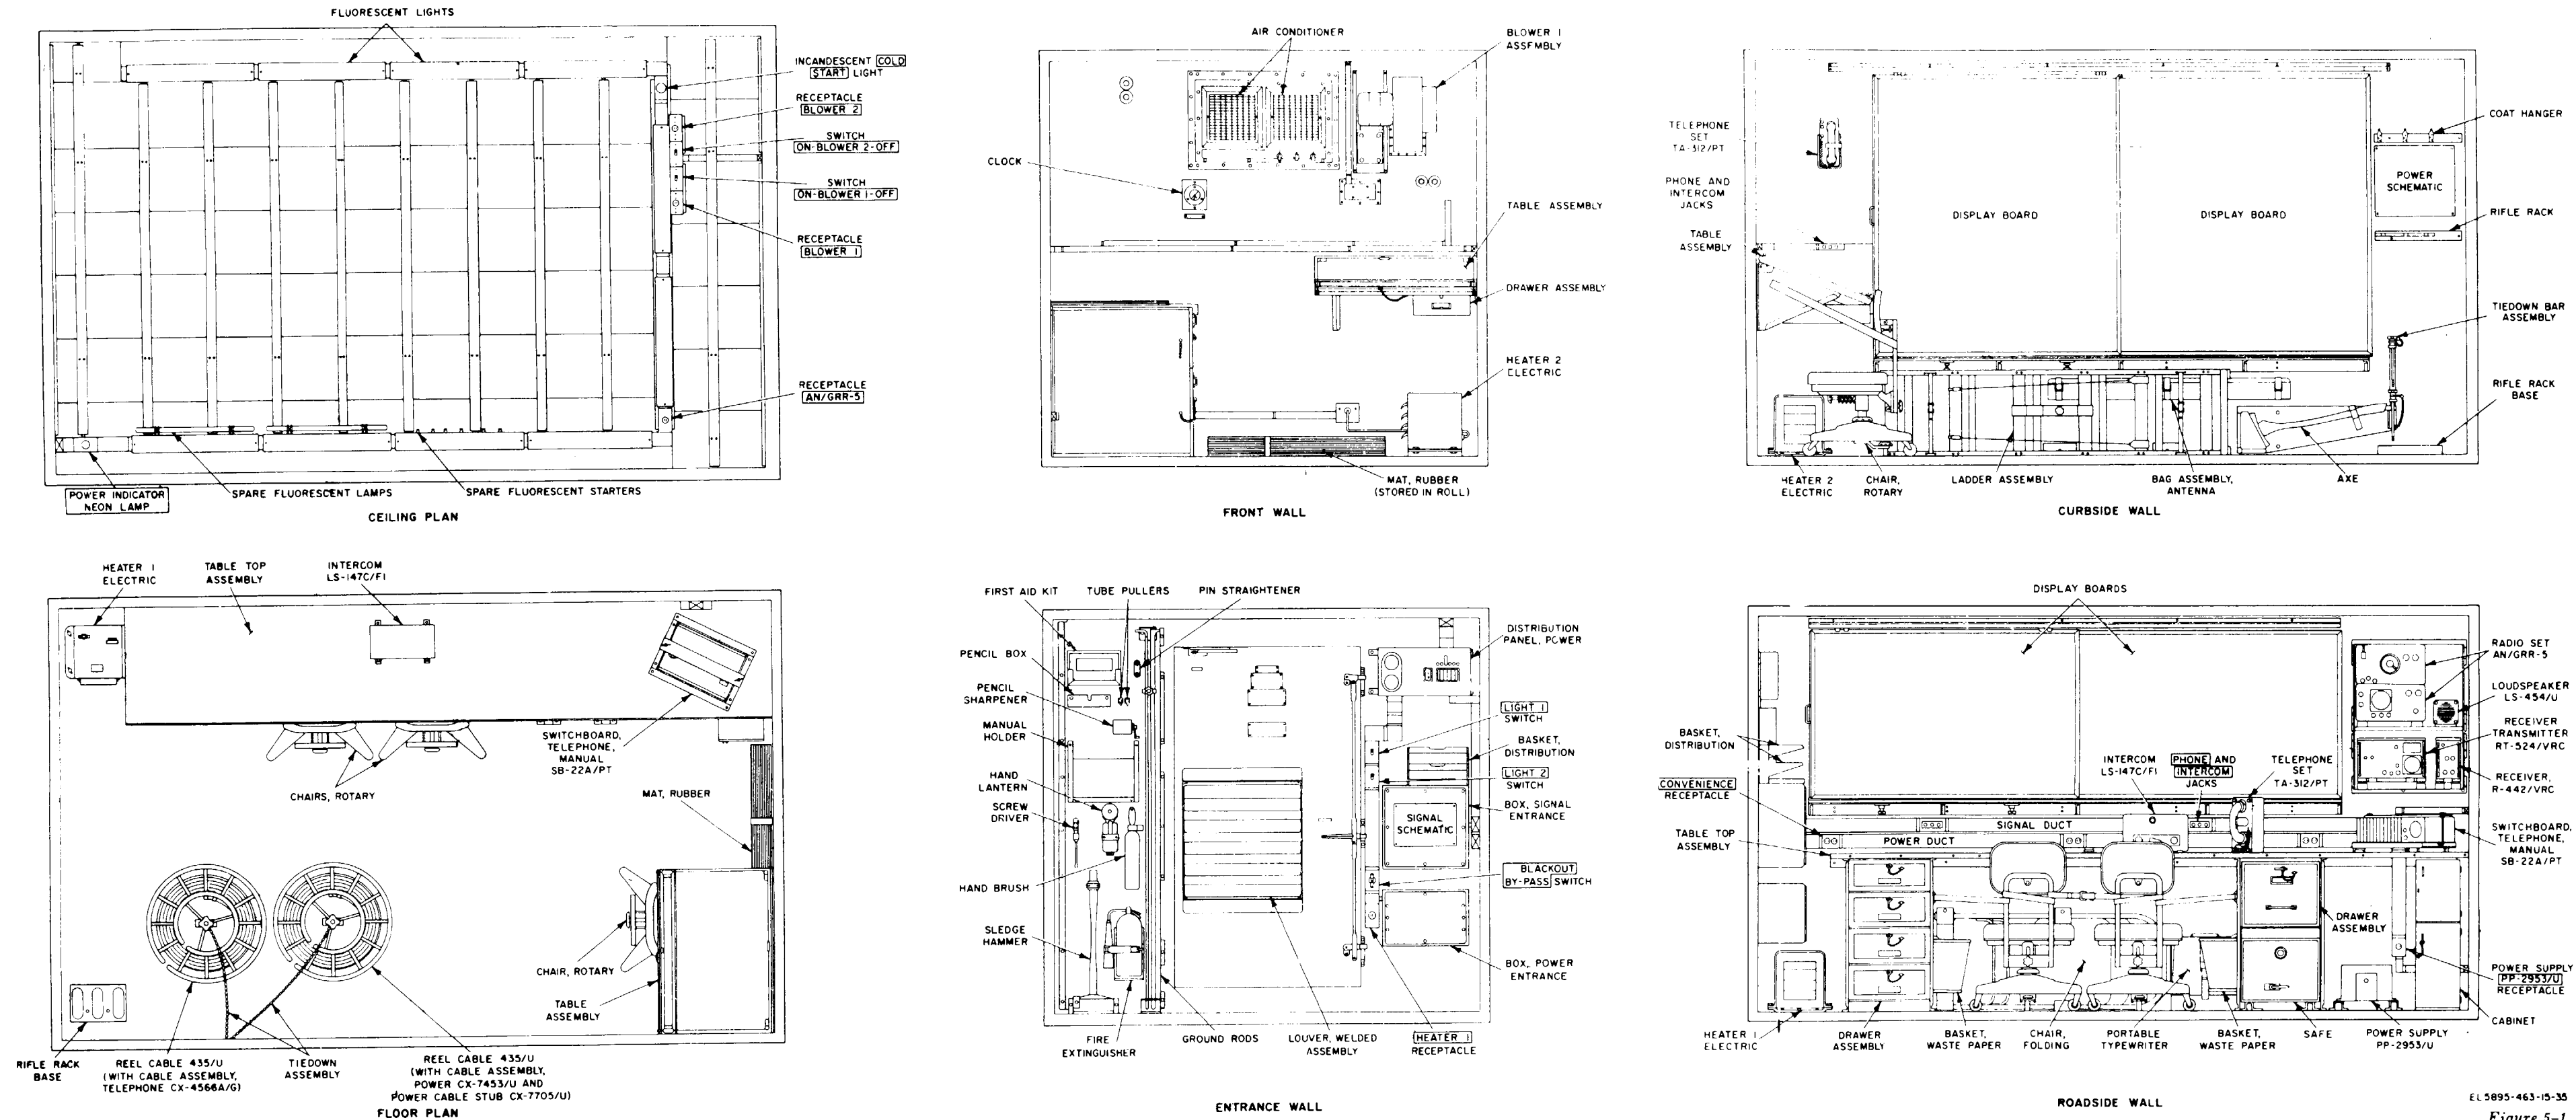

Figure 5-1. Operations Center, Communications AN/MSC-31A floor plan and elevation diagram.
c. Check to see that all equipments are secure in the proper storage racks (fig. 5-1).
h. Remove the ground rod, clean and store it in the shelter (fig. 5-1).
i. Wind the power cable and the telephone cable on their respective reels, and secure the reels to the shelter floor (fig. 5-1).
k. Remove the whip antennas and antenna wire, and store them in the storage bag inside the shelter (fig. 5-1).
- c. Check the area to make sure that all components and parts have been recovered and stored (fig. 5-1).
- d. Check the interior of the AN/MSC-31A to make sure that all components and parts have been properly secured and that all compartment doors are closed and secured (fig. 5-1).